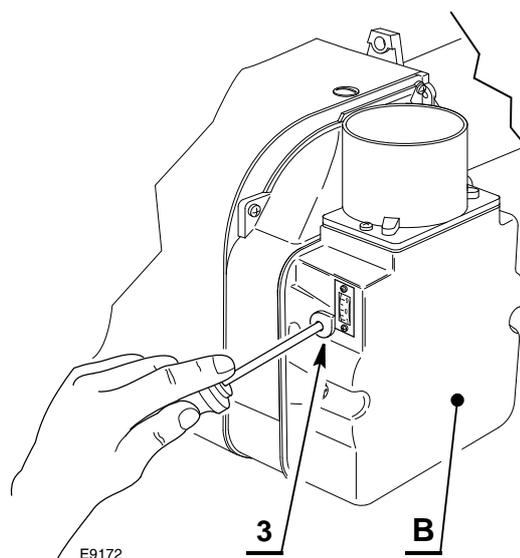

Fig. 21
The air setting is performed by mean of two independent dampers (see Fig. 20 and Fig. 21).
- Remove the secondary air damper (B) loosening the screws (1).
- Loosen the screw (2) and rotate the main air damper (A) to the required position.
- Retighten the screw (2) and put back the secondary air damper (B).
##### Secondary air damper (B) - Fig. 21